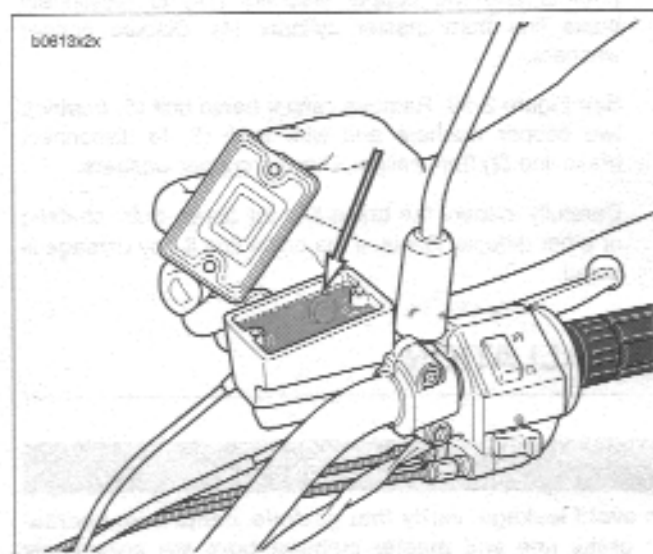

Figure 2-37. Brake Fluid Level
6. See Figure 2-37. With the master cylinder in a level position, add D.O.T. 4 BRAKE FLUID. Bring fluid level to within 1/8 in. (3.2 mm) of molded boss inside front master cylinder reservoir.